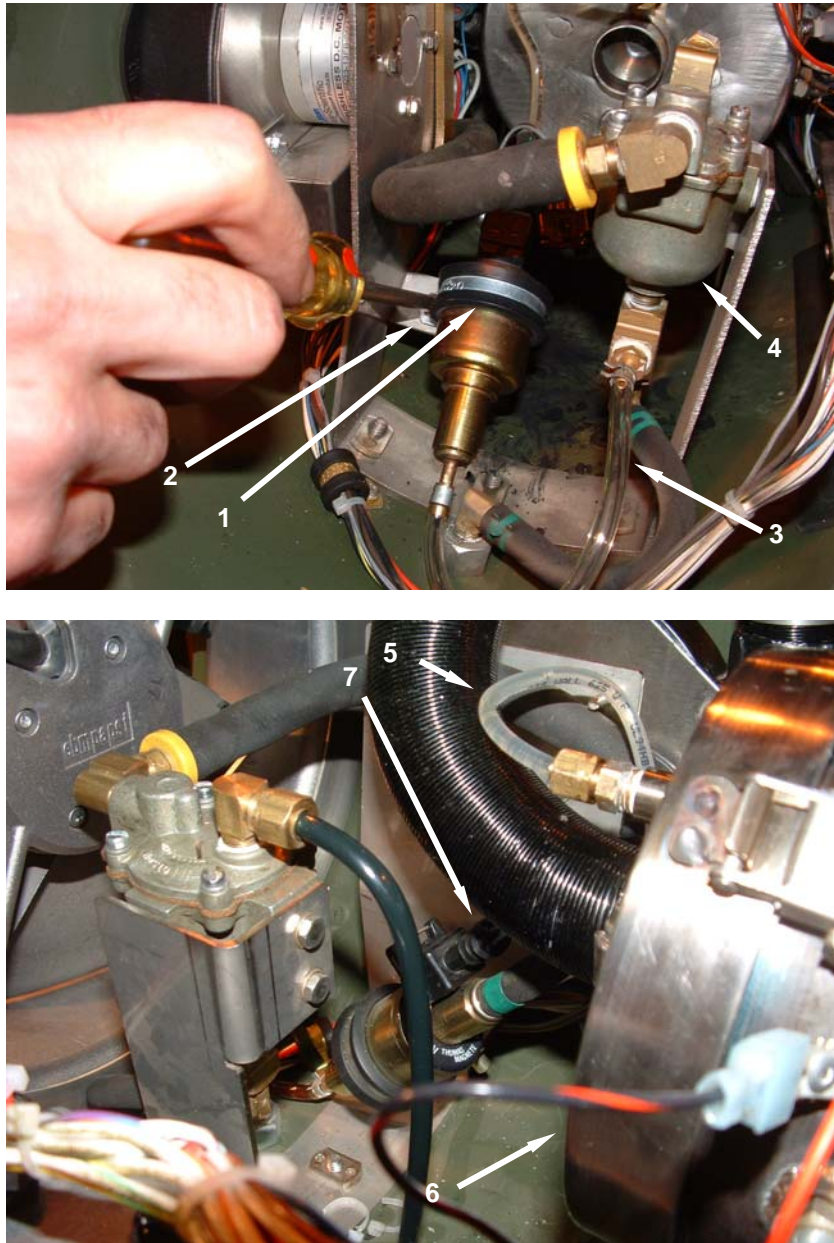

Figure 4. Replace Fuel Pump Assembly.
17. Position the fuel pump bracket (**Figure 4, Item 1**) over the hole in the lower housing assembly and install the screw (**Figure 4, Item 2**). Tighten securely.
18. Connect the fuel pump inlet hose (**Figure 4, Item 3**) to the float assembly (**Figure 4, Item 4**).
19. Connect the fuel pump outlet hose (**Figure 4, Item 5**) to the compression fitting connection on the burner (**Figure 4, Item 6**). Tighten the compression fitting ¼ turn past hand tight.
20. Reconnect the electrical connector (**Figure 4, Item 7**).